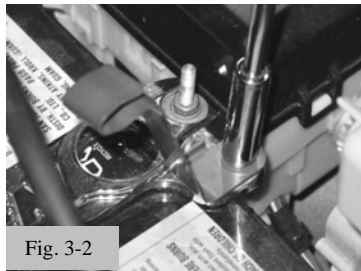

Fig. 3-2
- (1) Torque to a target torque of 12 lbf-in.
- (e) Bolt the throttle cable bracket to the AEM battery tie down using the supplied bolt and washer. (Fig. 3-2)